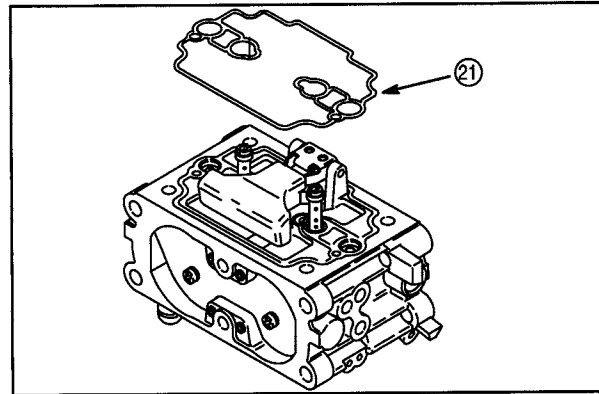

Fig. 74
13. Install lower body gasket (21), **Fig. 74**. Make sure gasket does not twist or kink.